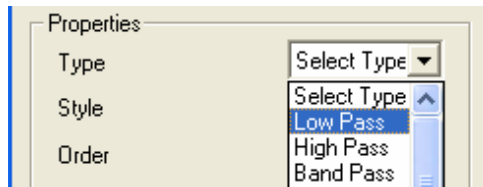

Figure 11
9. In the Properties frame, located beneath the Filter List, is a dropdown menu titled **Type**. Open the menu and select **Low Pass** from the list (Figure 11).